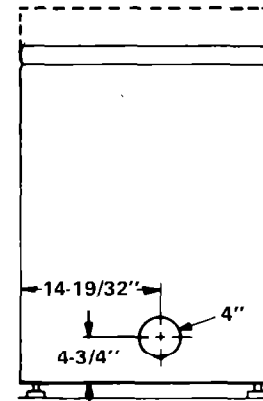

Figure 1
2. Exhaust outlet at rear of dryer is located as shown in Figure 1.